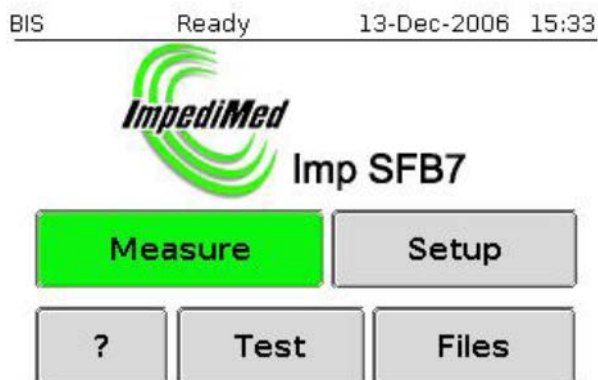
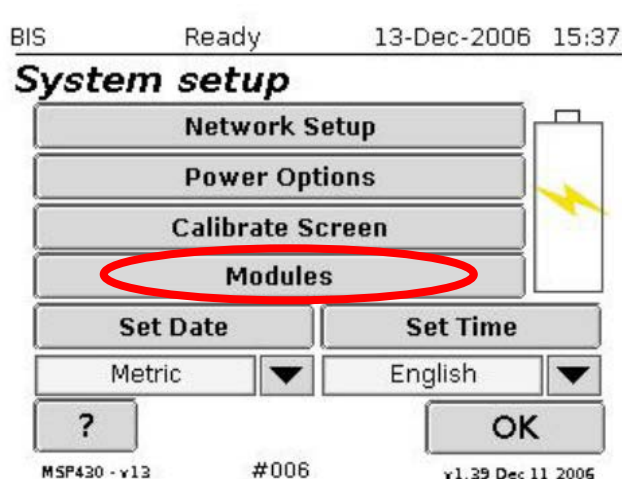

Figure 2. The start screen.
Figure 3. Setup screen
21. To select whether you want the device to take measurements in BIS (bioimpedance spectroscopy) mode or in SFBI (selected frequencies) mode, tap "setup" (figure 2) on the start screen and then select "modules" (circled red, figure 3).
25. Select BIS mode by following the instructions above (no. 2, figure 3 and 4)
32. Select SFBI mode by following the instructions above (no. 2, figure 3 and 4)
39. Switch on the machine and set it to BIS mode, by following the instructions above (no. 2, figure 3 and 4).